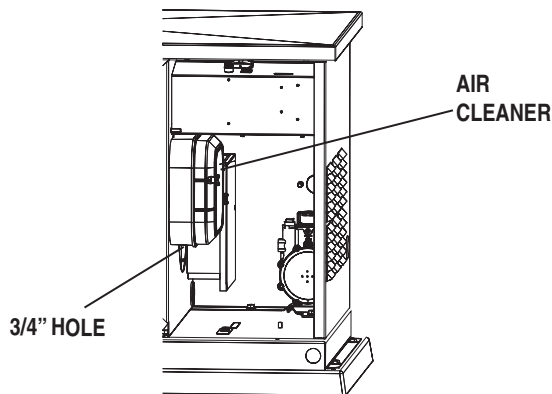

Figure 2. Demand Regulator
10. Take the plastic plug supplied in the poly-bag with the generator and press it into the 3/4" hole on the bottom of the air cleaner base (Figure 2).